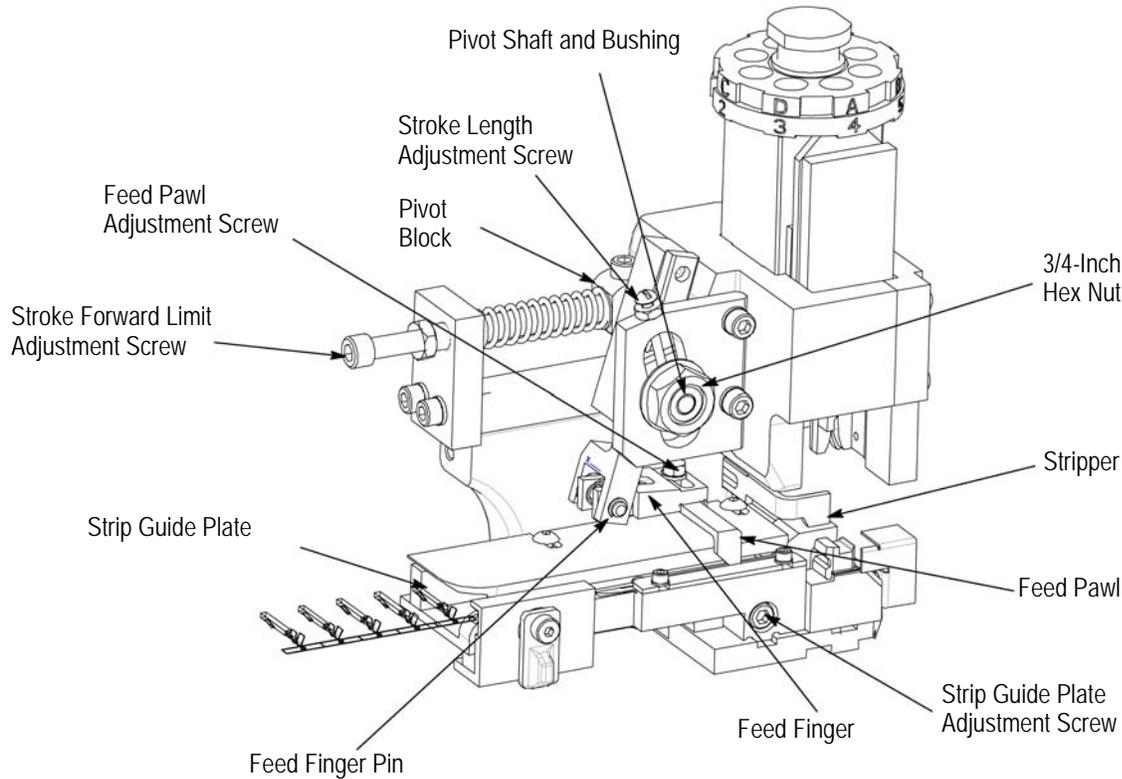

Figure 2
3. Loosen screw on top of pivot block (see Figure 2). Turn the stroke forward limit adjustment screw **COUNTERCLOCKWISE** to move the forward limit toward anvil, or **CLOCKWISE** to move the forward limit away from anvil. Tighten screw on top of pivot block.
a. Applicators with mechanical-feed systems (Figure 2) -
- 1) Loosen slightly the 3/4-in. hex nut, on side of applicator, to allow the pivot shaft to move in slot (see Figure 2).